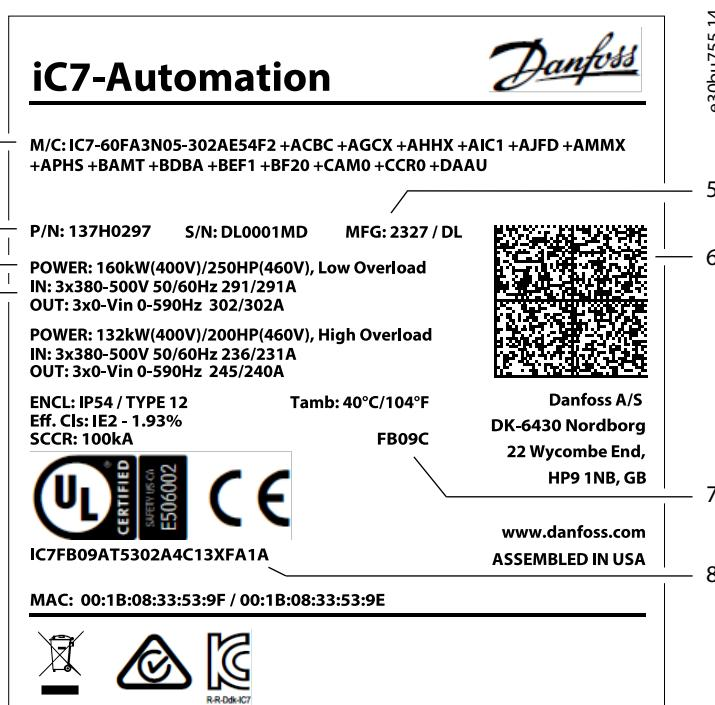

Figure 1: Example of a Product Label
1. Identify the frame designation. See Figure 1.